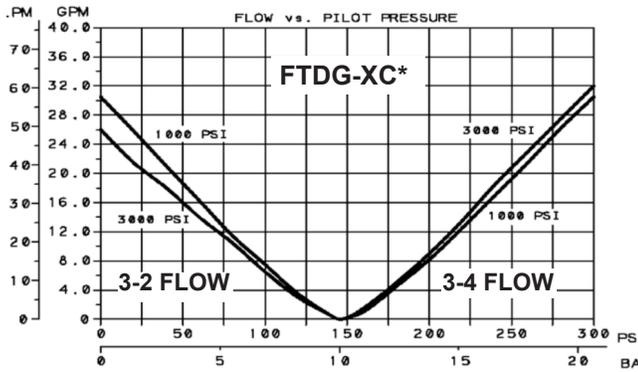

Figure 13
- Zero flow is obtained at 150 psi with “C” spool. (See **Figure 13**).